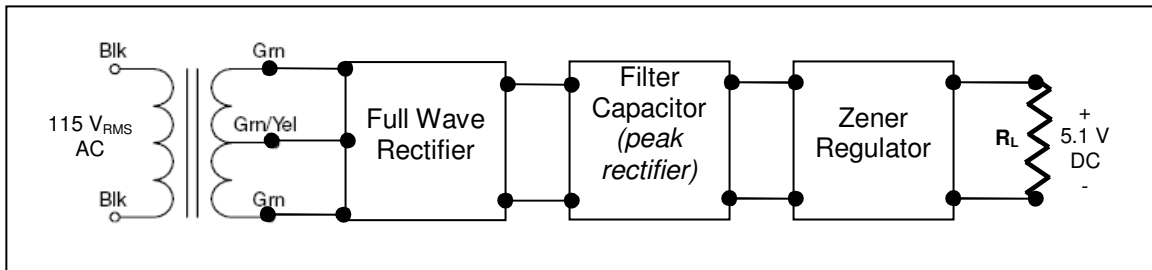

Fig 1.1 – Basic AC-to-DC Power Supply Block Diagram
-Figure 1.1 shows a block diagram of the circuits needed to cascade to create the AC-to-DC power supply. It is similar to figure 3.24 in the Sedra Textbook.